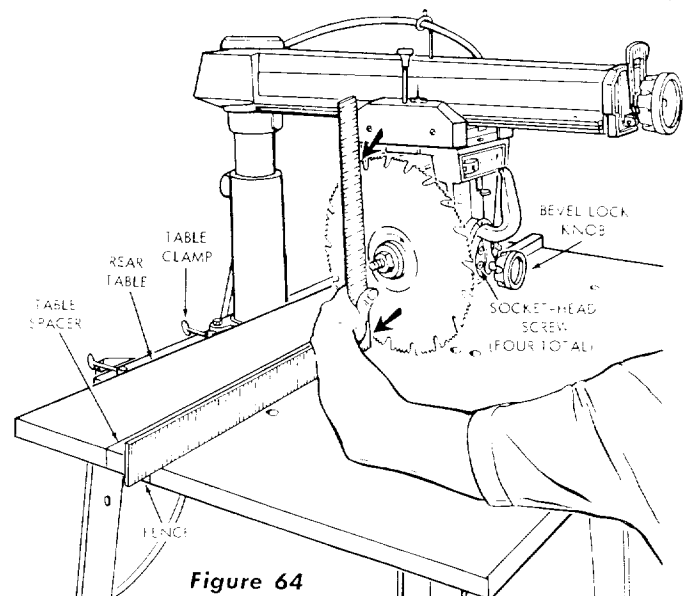

Figure 64
- (1) Place a framing square on the table with the short leg against the saw blade as shown in figure 64. Do not allow the square to rest against a "set-out" tooth of the saw blade.
- (2) If the saw blade is square with the table top, the square will contact the hollow-ground blade at the points shown by arrows in figure 64. If the
- Tilt the motor until saw blade is square with the table top as shown in figure 64. Then, while holding the square firmly against the saw blade and table top, apply moderate force against lower part of saw blade with the thumb until approximately 1/32-inch clearance exists between the square and lower edge of saw blade. This is to compensate for the possible slight shifting of the motor while the socket-head screws are being tightened.